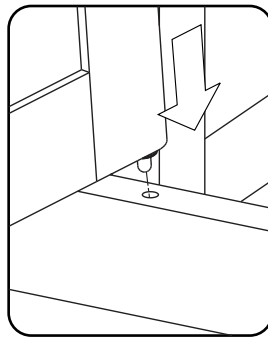

Figure 5
Attach Doors (K) and (L) to unit by inserting lower spring pins into holes in unit, then inserting upper spring pins into holes in unit. (See Figure 5)